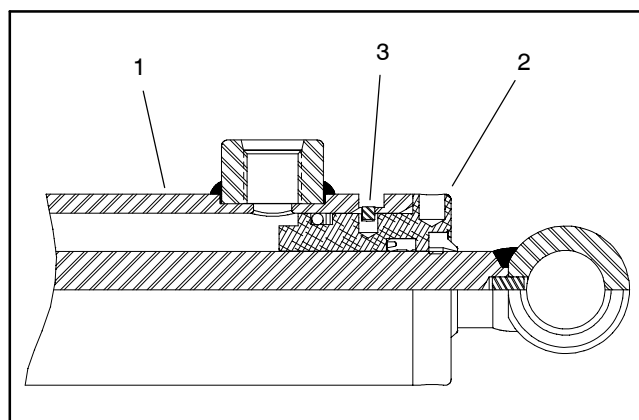

Figure 80
B. On cylinders with a retaining ring (Fig. 80), use a spanner wrench to rotate head clockwise until the edge of the retaining ring appears in the barrel opening. Insert a screwdriver under the beveled edge of the retaining ring to start the retaining ring through the opening. Rotate the head counter-clockwise to remove retaining ring from barrel and head.
B. On cylinders with a retaining ring (Fig. 80), align retaining ring hole in the head with the access slot in the barrel. Insert the retaining ring hook into the hole and rotate head clockwise until the retaining ring is completely pulled into the barrel and the ring ends are covered.